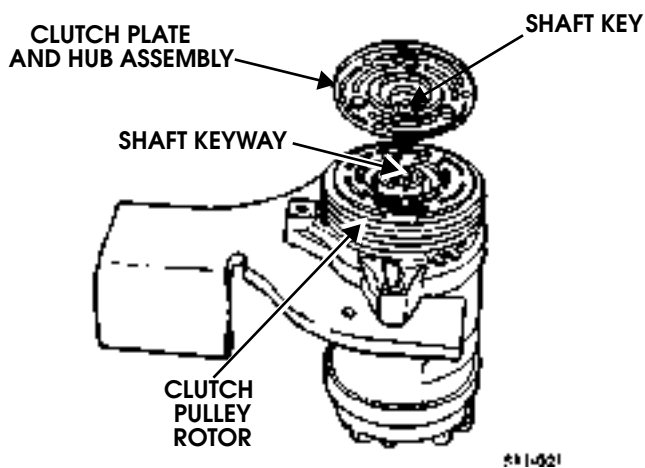

Figure 11-28: Shaft Key
5. Remove the shaft key and retain for reassembly (Figure 11-28).
1. Install the shaft key into the hub key groove. Allow the key to project approximately 1/8 in. (3.2 mm) out of the keyway. The shaft key is curved slightly to provide an interference fit in the hub key groove (Figure 11-28).
8. Spin the pulley rotor by hand to see that the rotor is not rubbing the clutch drive plate (Figure 11-28).